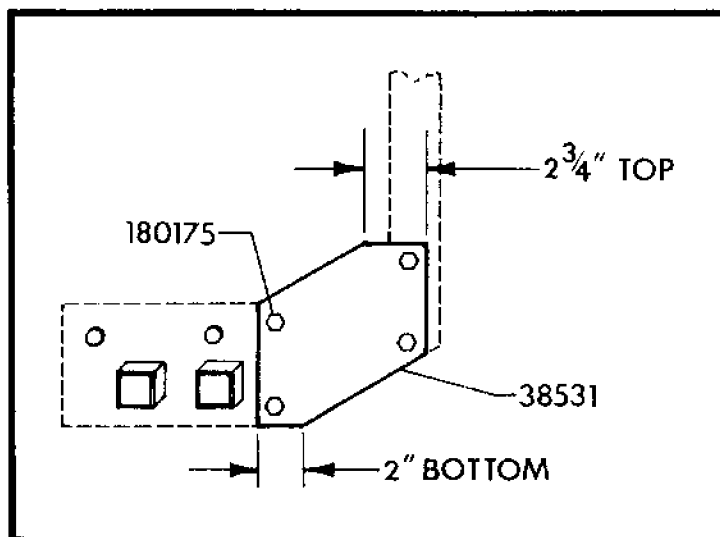

FIGURE 1
- Attach the two risers to the outside of the support with two 1/2-13x1.25 bolts and two lock nuts on each side. Do not tighten the bolts. See Figure 1 for correct position of the risers.